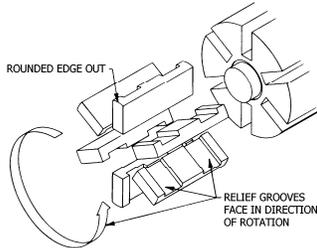

Figure 4 – Vane Replacement
4. Install a new vane, ensuring that the rounded edge is UP, and the relief grooves are facing towards the direction of rotation. See Figure 4.
2. Apply a small amount of quality O-ring lubricant in the head recess. With new O-rings installed, push the mechanical seal assembly (153) into the recess of the head with the seal jacket drive tangs inward. The pin in the seal stationary seat **MUST** be between the lugs in the back of the head recess.
3. Apply a small amount of quality O-ring lubricant to the O-ring groove on the inside face of the head to facilitate installation. Install a new head O-ring (72) in the groove by laying the O-ring flat and starting in on one side of the groove, stretching ahead with the fingers, as shown in Figure 4.